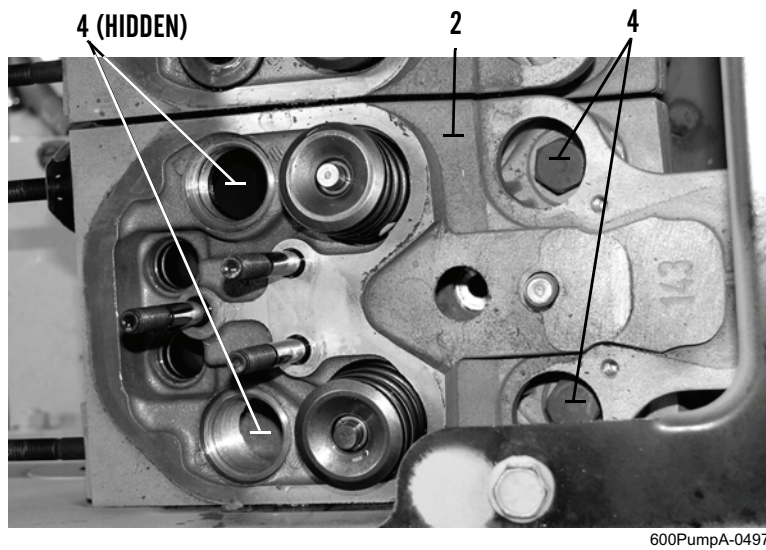

Figure 3. Cylinder Head Bolts.
3. Fully loosen bolts (Figure 3, Item 4) from cylinder head (Figure 3, Item 2).